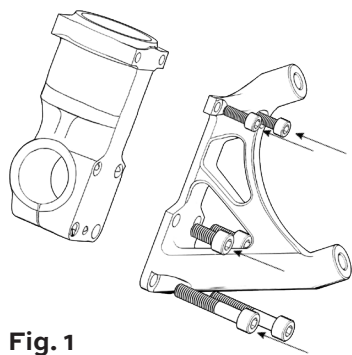

Fig. 1
1. Install Brake Caliper mounts onto fork. **(See Fig. 1)**